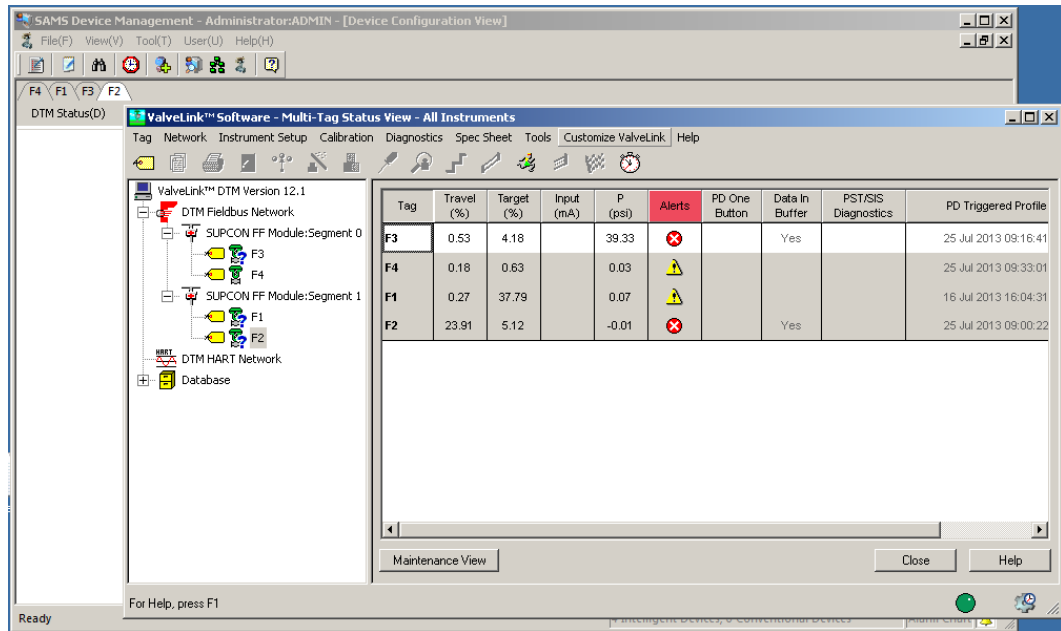

Figure 23-2 Device operation
- 3) All devices can be operated in ValveLink, as shown in Figure 23-2: